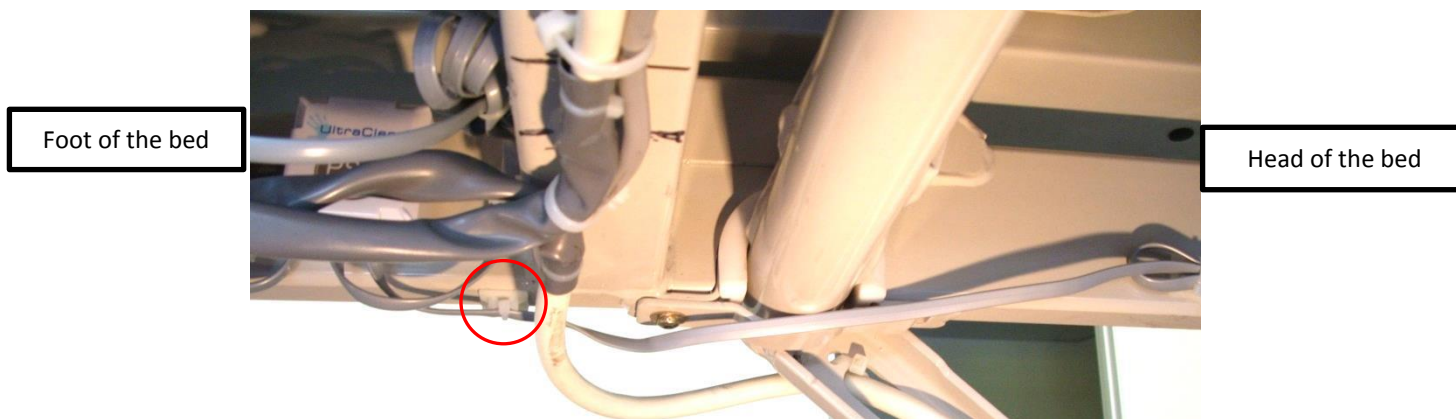

Figure 9. ALP Sensor Cable Routing to Dock and Cable Tie Holder Placement
4. Place a cable tie holder and route the ALP Sensor cable as shown (see Figure 9).